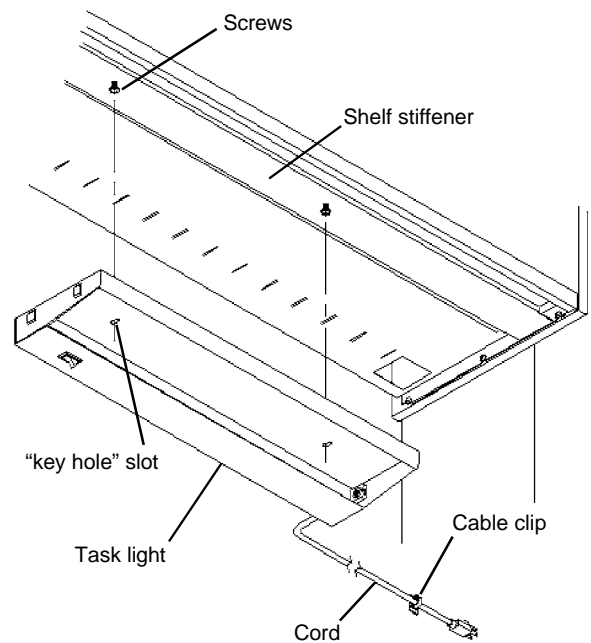

Figure 4
3. Position the Task Light fixture against the Shelf stiffener with the mounting screws protruding thru the large ends of the “key hole” slots. Push the fixture toward the back of the Shelf to seat the screws into the narrow portion of the slots and then tighten the screws. See **Figure 4**.
1. The **Tool Track** attaches to the under side of the Light Support Brackets at the front. Align the hole in the Tool Track with the hole in the Support Bracket and drive one 1/4-20 x 1/2" screw and lock washer into the end of each Bracket. Screws at both ends should be started before tightening either one. See **Figure 4**.
2. Insert one **End Stop**, #83632, into the Tool Track (see **Figure 4** for orientation). The straight plate is on the outside creating a sandwich or clamping attachment. **Do Not** tighten yet!